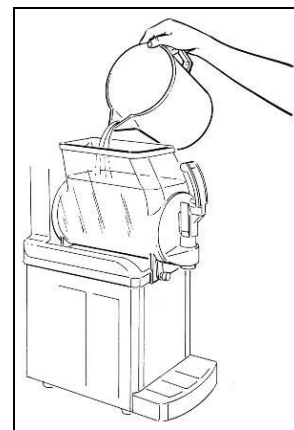

Fig. 3
- **P**our lukewarm water into the bowl (fig.3) and, after re-positioning the main cover, make the scraper auger rotating for some minutes.